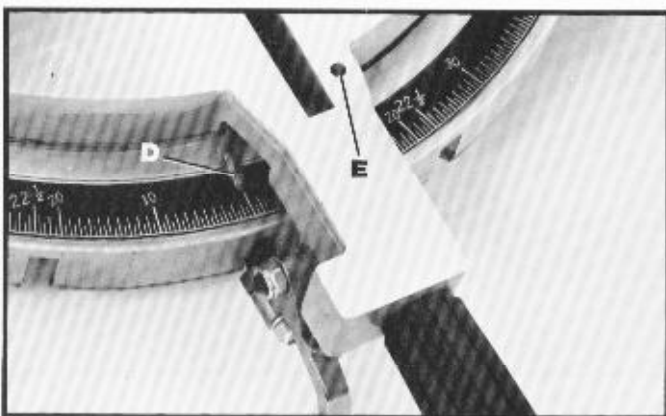

Fig. 25
6. When you are certain the cut is at 90 degrees, adjust pointer (D) Fig. 25, to point to the "0" mark on the scale, by loosening set screw (E).